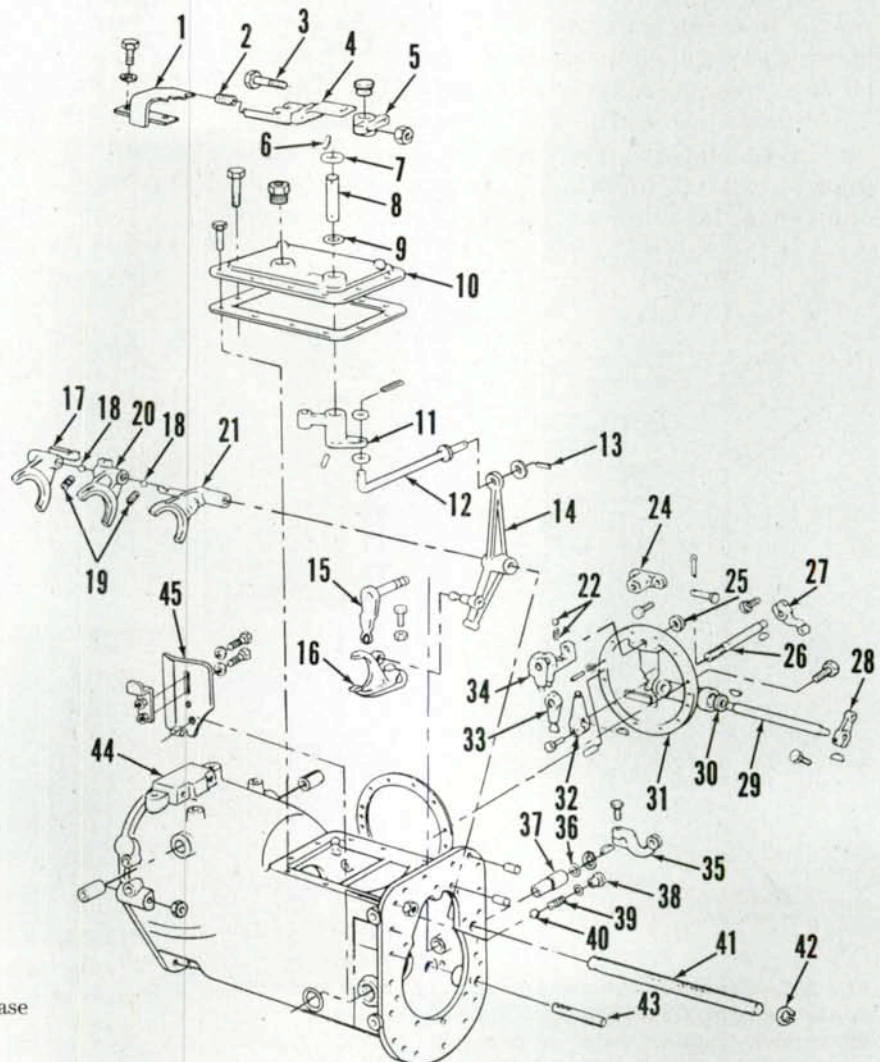
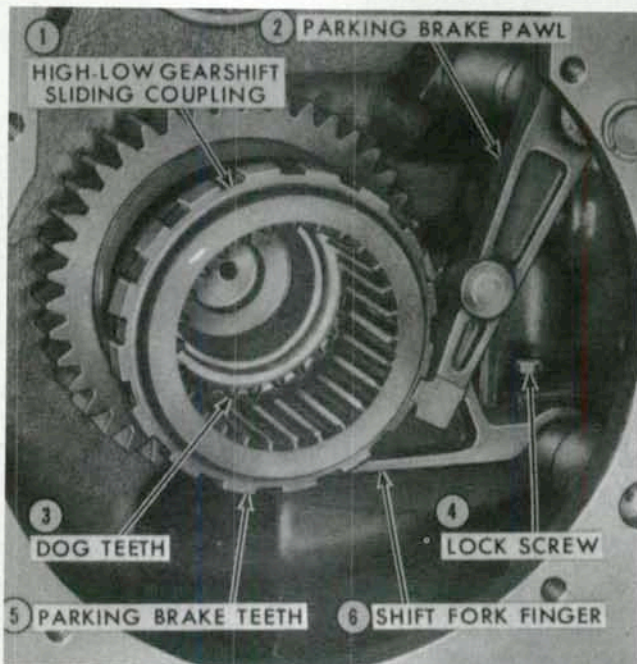
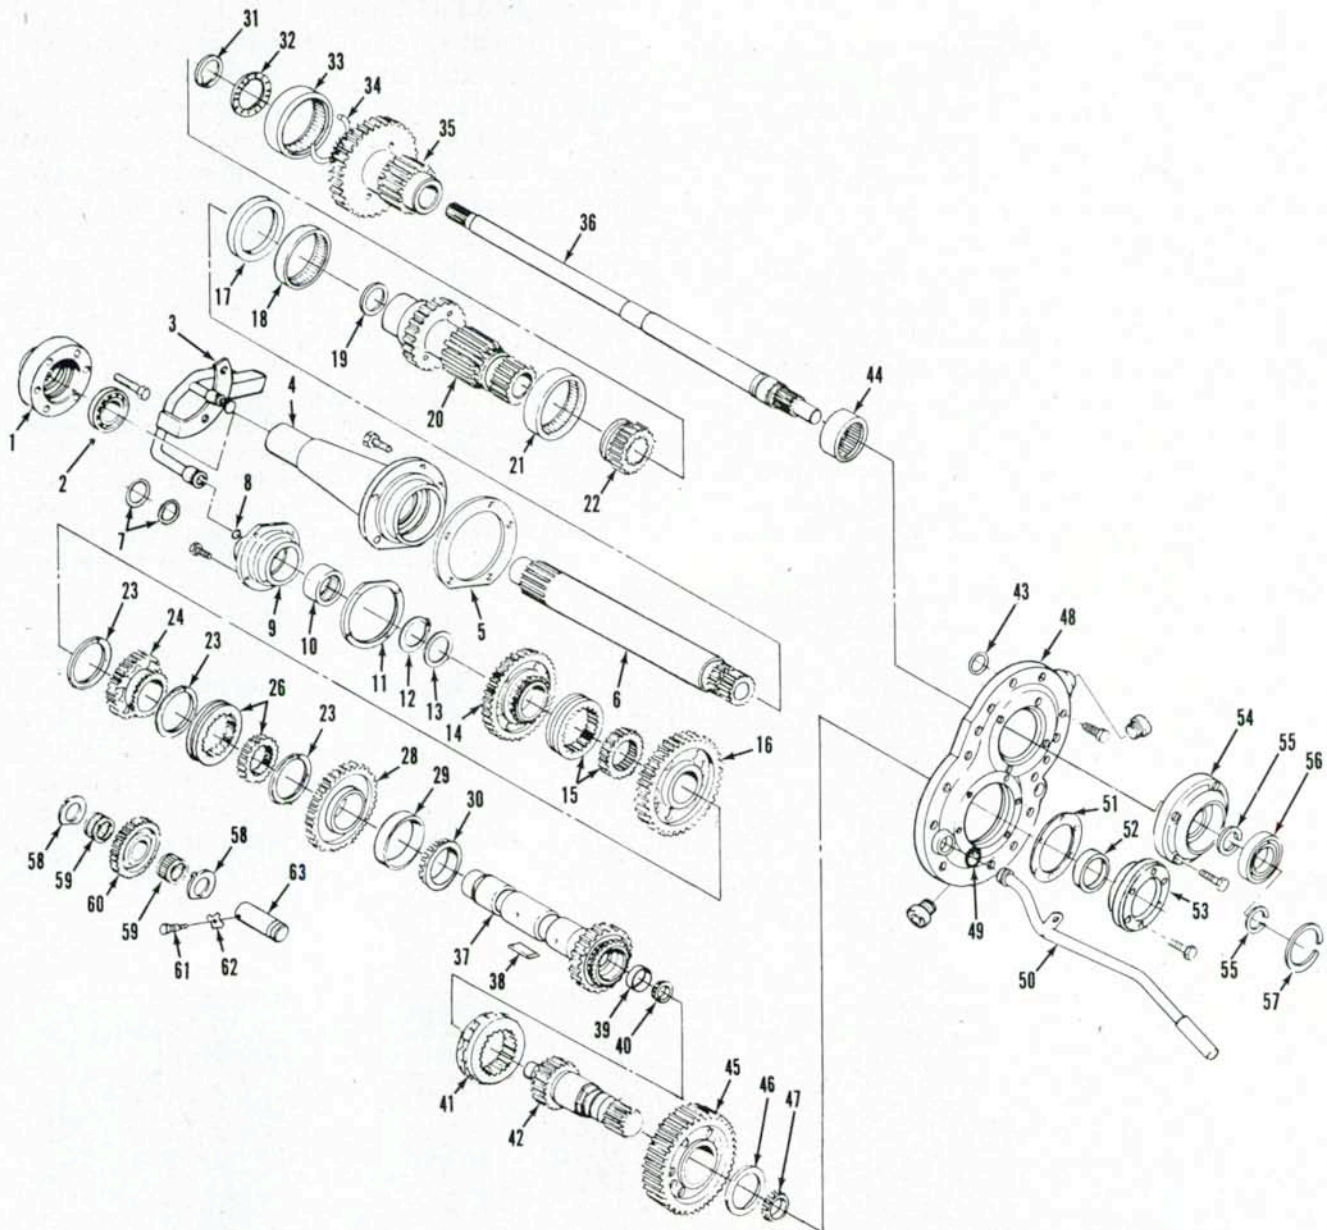
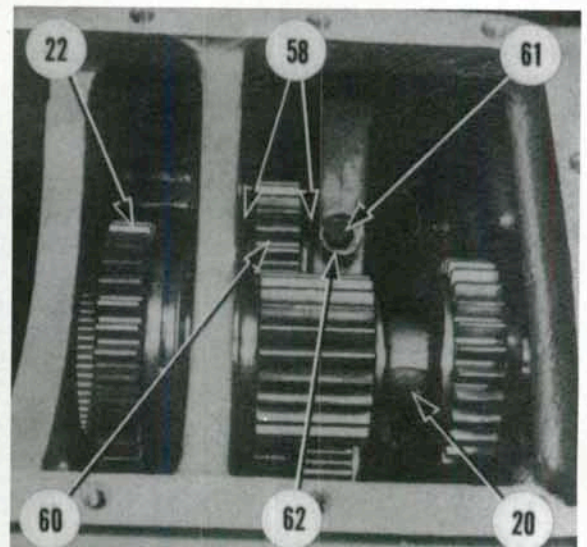

Fig. 203—Exploded view showing transmission case, gearshaft and parking brake components.
Fig. 208—View of rear of transmission with output shaft and secondary countershaft removed. Note brake pawl engagement with high/low sliding coupling.
Fig. 210—Exploded view of transmission gears, shafts and related components.
**Fig. 211—View of front of transmission on models not equipped with Dual Power.**
Remove clamp bolt from interlock shift finger (32—Fig. 203). Pull interlock shaft (29) out until interlock finger can be removed. Remove key from interlock shaft, then withdraw shaft from shift cover. Remove gearshift arm (27) and key from control shaft (26). Remove clevis pin from control shaft support (24), pull control shaft out until shift control finger (33) can be removed, then pull control shaft out from the inside of cover and remove transmission gearshift interlock (34) and detent ball and spring (22).
Withdraw secondary countershaft (35) from rear of transmission. Remove snap ring (31—Fig. 210) and thrust bearing (32) from front of countershaft. Inspect roller bearing (33) located in web of transmission. If bearing is worn or damaged, it can be removed and a new bearing installed without further disassembly, providing care is taken to remove any dislodged rollers from the housing.
To remove high-low shift fork, first remove detent plug (38—Fig. 203), spring (39) and ball (40) from side of transmission housing. Remove high-low sliding coupling (Fig. 208) from shift fork fingers. Loosen set screw in high-low shift fork. Withdraw the high-low shift rail and remove shift fork from parking brake pawl.
To reassemble rear section of transmission, proceed as follows: If removed, install new roller bearing (33—Fig. 210) in transmission web and new bearing cup (39) in rear end of main countershaft (37). Place high-low shift fork (Fig. 208) on lug on parking brake pawl, then insert shift rail (detent end first) through the shift fork. Align indentation in rail with shift fork set screw, then tighten screw and locknut. Install detent ball, spring and retaining plug in right side of transmission housing. Place high-low sliding coupling in shift fork fingers with parking brake teeth to the rear. Shift the coupling forward to engage with dog teeth on main countershaft.
Assemble spacer (34—Fig. 210), thrust washer (32) and snap ring (31) on front of secondary countershaft (35). Install the countershaft assembly in transmission case.
157. Oil leakage into clutch compartment can be from damaged or worn oil seal (17—Fig. 210) in clutch release bearing support (4) or pto shaft oil seal (19) in front end of transmission mainshaft (20). The following procedure for input shaft seal renewal does not apply to tractors with Dual Power, as seal is not used with Dual Power unit.
Oil seal (17) in release bearing support can be renewed after splitting tractor between engine and transmission housing as outlined in paragraph 130. Drain oil from transmission and rear axle center housing, approximately 20 U.S. gallons (76 liters). Remove pins (11—Fig. 211) from clutch release fork (9), then pull cross shaft (10) from transmission case and remove the fork and release bearing (8). Remove lubrication inlet tube (2), manifold (3) and supply tube (5). Pull transmission input shaft (4) from support housing. Unbolt and remove release bearing support (1) from transmission.
Remove and discard needle roller bearing (18—Fig. 210) and oil seal (17) from rear end of release bearing support. Install new oil seal with lip to the rear; drive seal in until it lightly contacts shoulder in support. Install new needle roller bearing by driving on lettered side of bearing.
158. To renew pto shaft oil seal (19—Fig. 210) in mainshaft (20), the mainshaft must be removed from transmission as follows: With transmission separated from engine, remove Dual Power Unit (if so equipped) as outlined in paragraph 138, or remove clutch release bearing support (without Dual Power) as outlined in paragraph 157. Remove main countershaft bearing retainer (6—Fig. 211) from front of transmission case to allow countershaft to drop down. Remove parking brake actuator and transmission top cover as outlined in paragraph 148. Remove cap screw (61—Fig. 210) and locking washer (62), then slide reverse idler shaft rearward and remove idler gear (60) and thrust washers (58). Engage sliding coupling (22) with dog teeth on front end of secondary countershaft. Withdraw mainshaft (20) from transmission. Remove old seal and install new seal using a suitable step plate driver. Drive the seal in until it seats against shoulder in mainshaft.
**159.** Remove transmission from tractor as outlined in paragraph 155. Remove parking brake actuator and top cover as outlined in paragraph 148. Remove gear shift cover as outlined in paragraph 151. Remove rear cover and high-low gears as outlined in paragraph 156. Remove input shaft (4—Fig. 211) as outlined in paragraph 157. Unbolt and remove main countershaft front bearing retainer (6).
Remove snap ring (12—Fig. 210) and thrust washer (13) from front end of main countershaft (37). Disengage the three snap rings (2—Fig. 213) from grooves in shift rail; snap rings must be slid along the shift rail as it is being removed. Install a bolt and jam nut
Reinstall main countershaft front bearing retainer (9—Fig. 210) to support front of countershaft, using substitute cap screws or studs at least ½ inch (12.7 mm) longer than original to allow countershaft to move forward to provide access to keys (38). Move front sliding gear coupling and connector (15) and 47 tooth gear (14) forward as far as possible. Separate the gears until 55 tooth gear (16) is fully rearward and 43 tooth gear (28) contacts rear bulkhead. Use a magnet to remove key from front of countershaft.
Move rear sliding gear coupler (26—Fig. 210) forward to engage dog teeth of 51 tooth gear (24). Move the coupler and 51 tooth gear forward using a long screwdriver until countershaft rear key is accessible. Remove rear key with a magnet. Withdraw countershaft (37) through rear of transmission case while removing countershaft components through top opening. Arrange all parts in sequence to facilitate reassembly.
**NOTE: Transmission gear shift sliding connector and coupling assemblies (15 and 26—Fig. 210) are furnished as matched sets. If connectors and couplings are to be reused, be sure they are identified and reassembled as matched sets. The outer coupling and inner connector are etched with timing marks to ensure they are mated correctly when reassembled.**
Inspect all gear teeth for chipping, excessive wear or scoring, and renew any not suitable for further service. Also inspect bearing and thrust surfaces of gears and shafts for scoring or excessive wear. Inspect bushing in mainshaft (20—Fig. 210) for excessive wear; mainshaft should be renewed if bushing is worn or damaged as bushing is not available separately. Renew all "O" rings and seals.
Install mainshaft (20—Fig. 212) in case from the front with splines of shaft engaging sliding gear coupling (22). Install reverse idler shaft (63—Fig. 210), gear (60) and thrust washers (58). Stepped hub side of reverse idler gear should be facing forward. Secure reverse idler shaft with locking tab and cap screw.